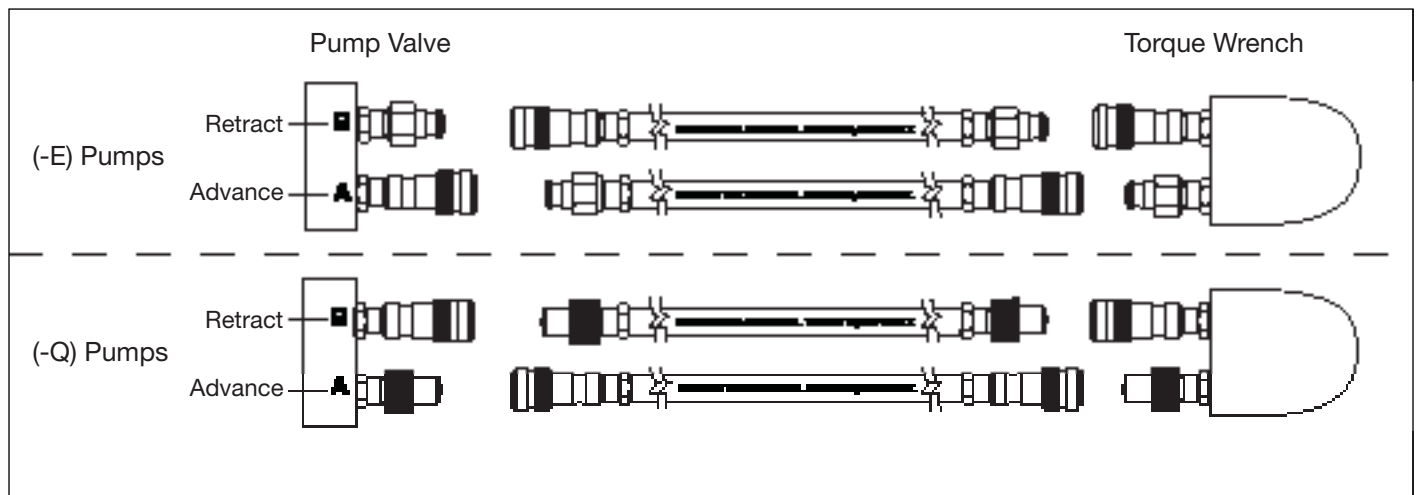

Figure 5, Hose Details
Connect hoses as shown in Figure 5.
2. (-Q) Pump type for Enerpac S and W torque wrenches and other brands: Use hoses marked “Enerpac THQ-700 series - 700 bar/10,000 psi max.” Couplers must be polarized per Figure 5 for correct wrench operation. Ensure couplers are fully engaged and tightened before operating. Partial coupler engagement will prevent proper wrench operation.